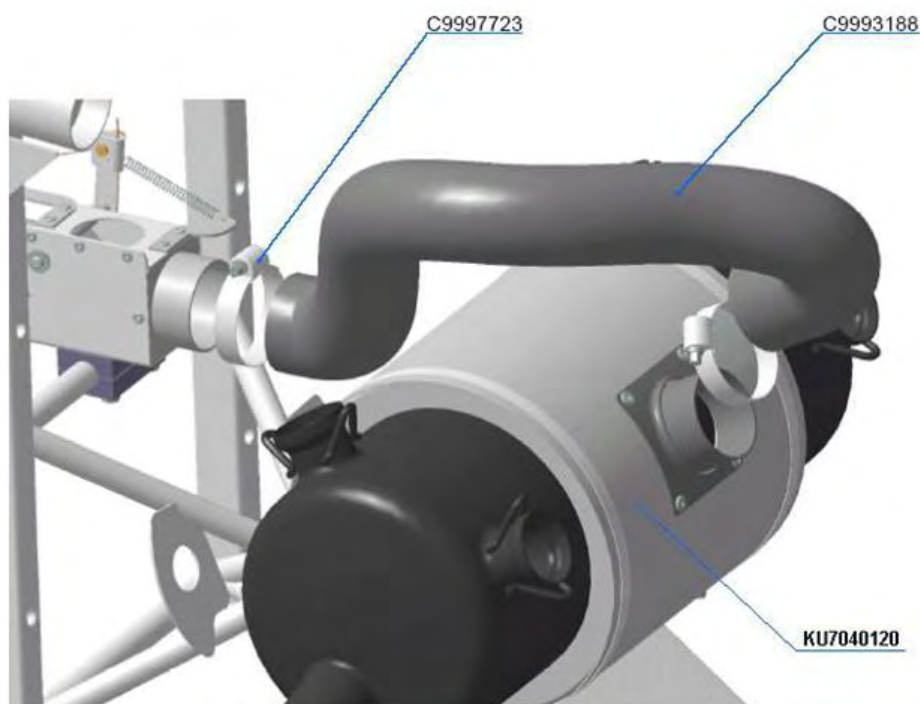

Fig. 9
- b. To replace a damaged hose in the engine compartment C9993188 (AERODUCT tube CEET-7 1-3/4 ID), Fig. 9, do the following:
- Unscrew the bolt by a cross-screwdriver or wrench with header 7 and release the clamp C9997723 Clamp 40-60 that secures the hose C9993188 (AERODUCT tube CEET-7 1-3/4 ID) near the heating Cabin heater choke KA7040200. Fig. 9.
- Unscrew the bolt by a cross-screwdriver or wrench with header 7 and release the clamp C9997723 Clamp 40-60 that secures the hose C9993188 (AERODUCT tube CEET-7 1-3/4 ID) near the heater KU7040120 (Air heater) in the engine compartment. Fig. 9.
- Disconnect the hose C9993188 (AERODUCT tube CEET-7 1-3/4 ID) from the heater KU7040120 (Air heater). Fig. 9.